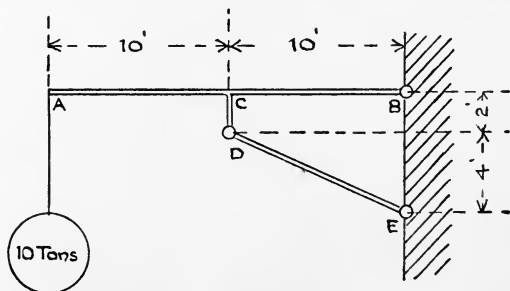

Fig. 3.
6. Draw the bending moment and shearing force diagrams for the beam shewn in Fig. 3. The beam is supported horizontally by the strut DE , hinged at one end to a wall and at the other end to the projection CD which is firmly fixed at right angles to AB . The beam AB is freely hinged to the wall at B . The weight of the beam and strut can be neglected.